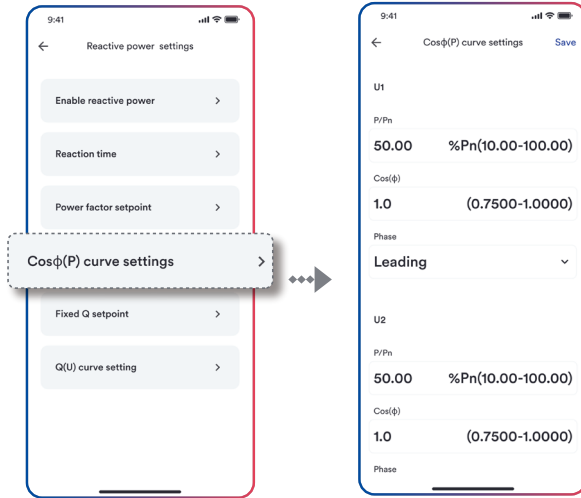

Figure 31. Cos( $\phi$ ) curve settings
Cos (P) curve settings is as shown in Figure 31: